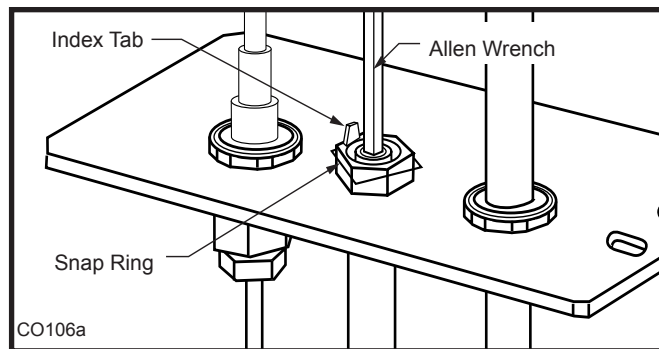

Fig. 79 Remove pilot orifice.
4. Remove pilot orifice with Allen wrench. (Fig. 79)